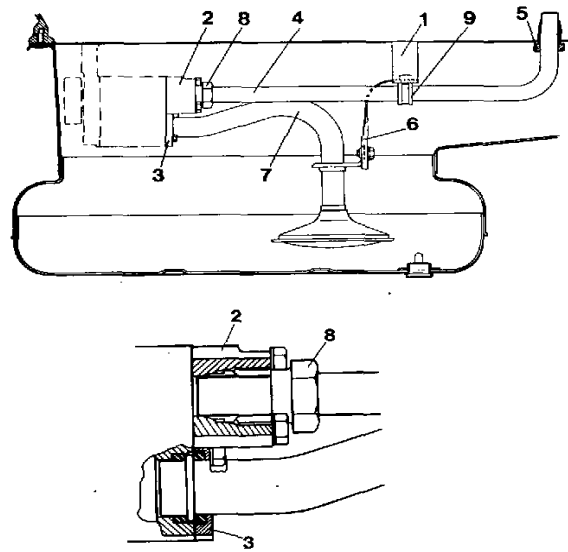

Fig. 107. Oil pipes, 120-series
3. Connect the suction and delivery pipes to the pump and cylinder block. Fit new O-rings. The screwed coupling to the cylinder block (5, fig. 107) should be angle-tightened 60° (one hexagonal edge) when refitting. This also applies to pos. 8, fig. 107 for the 120-series, if this coupling has been removed. For fitting a new delivery pipe, see below.
120-series: Feed the fitting ring, together with the screwed coupling (8, fig. 107) and the adaptor onto the delivery pipe.